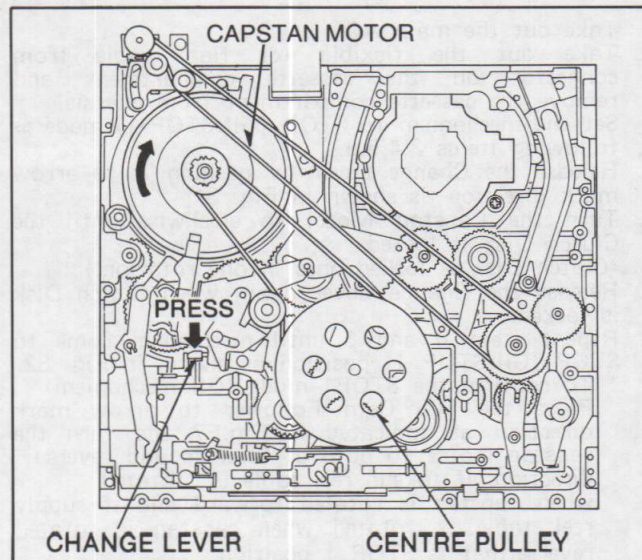

Fig. M3
3. Turn the Capstan Motor to the clockwise while the change lever is being pushed until the loading is completed as shown in Fig. M3.